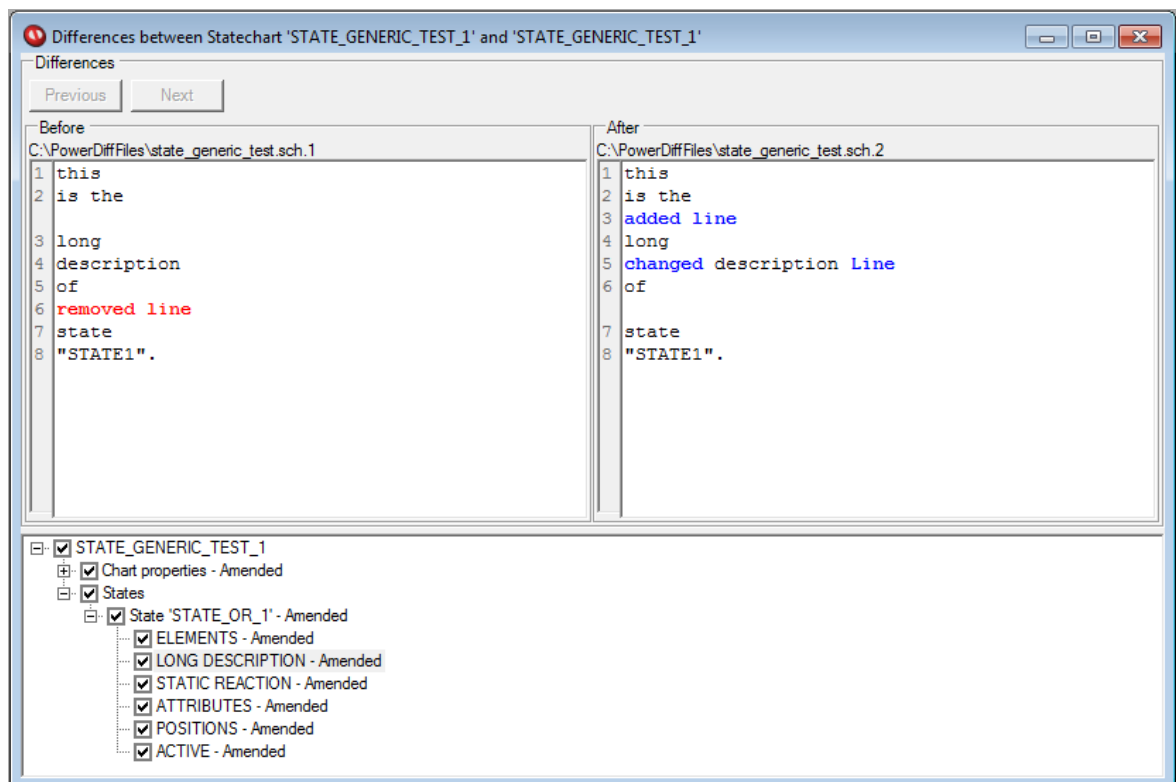

Figure 24: Detail view with textual differences
- Textual differences (refer Figure 24)
The example shown in Figure 24 indicates that the long description of a state was changed. The long description text has been selected to contain examples for changes detected by PowerDiff. There are added lines, added words within lines, changed and removed lines. All these changes can easily be navigated by using the “Next” and “Previous” button above the difference view. Pressing the “Next” button scrolls the next change into view. Pressing the “Previous” button scrolls back to the previous change. If the beginning or the end of the text is reached, the “Previous” or the “Next” button get disabled. Both buttons are also disabled if all changes are visible, thus no scroll action is needed.